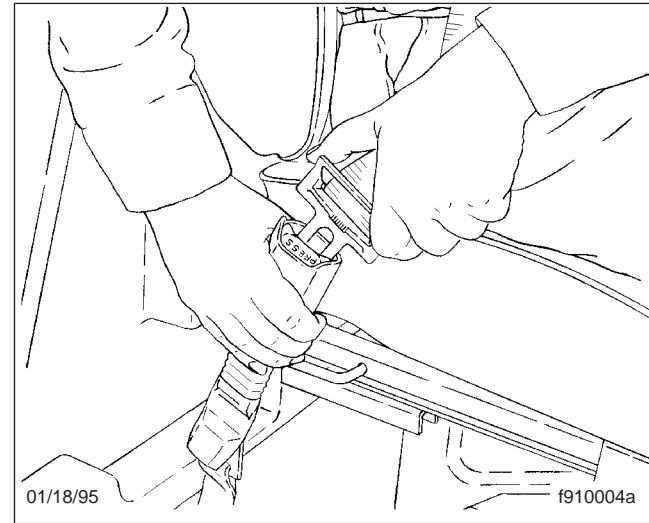

Fig. 2.8, Fastening the Three-Point Seat Belt (typical)
2. Fasten the three-point seat belt by pushing the link into the buckle until it latches. See Fig. 2.8. Give the belt a tug at the buckle. If the buckle unlatches, repeat this step. If the problem continues, replace the three-point seat belt.